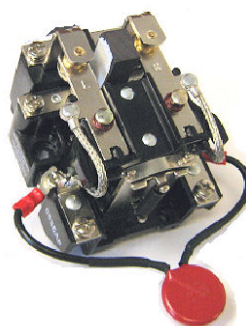

Figure 29. Typical MOV Wiring Across Contactor Coil
- ✓ **Note:** When using contactors with the system, it is advisable to use the MOV's. Install them across the coil of the contactors as shown in Figure 29.